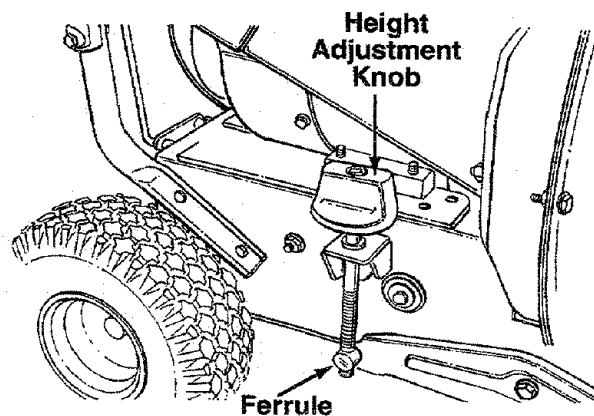

FIGURE 10.
The height adjustment knob is located on the right hand side of the chipper-vacuum. See figure 10. Turn the knob clockwise to raise the nozzle. Turn the knob counterclockwise to lower. (Be careful not to turn knob too far—rod could come out of ferrule.)
Your four-cycle engine will normally consume some oil—therefore, check engine oil level regularly approximately every five hours of operation and before each usage. Stop engine and wait several minutes before checking oil level. With engine level, the oil must be to FULL mark on dipstick (refer to figure 10). Change engine oil after the first five hours of operation, and every twenty-five hours thereafter.
- a. Remove oil drain cap. Refer to figure 10. Catch oil in a suitable container.